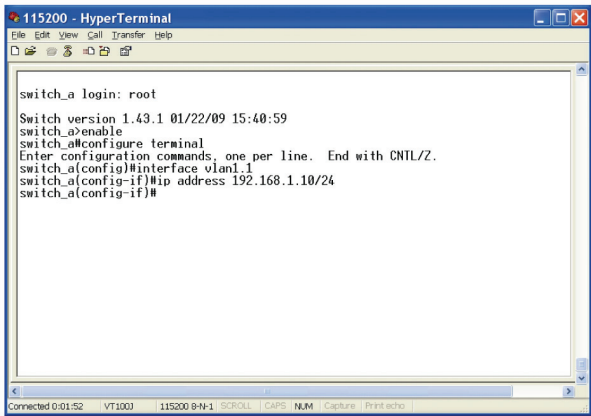

Figure QS-3. switch_a(config)# prompt.
6. Log on to Configure Mode (Configure Terminal Mode): At the "switch_all" prompt, just type in "configure terminal" and press Enter to log on to Configure Mode (or Configure Terminal Mode). The "switch_a(config)#" prompt will appear on the screen as shown in Figure QS-3.